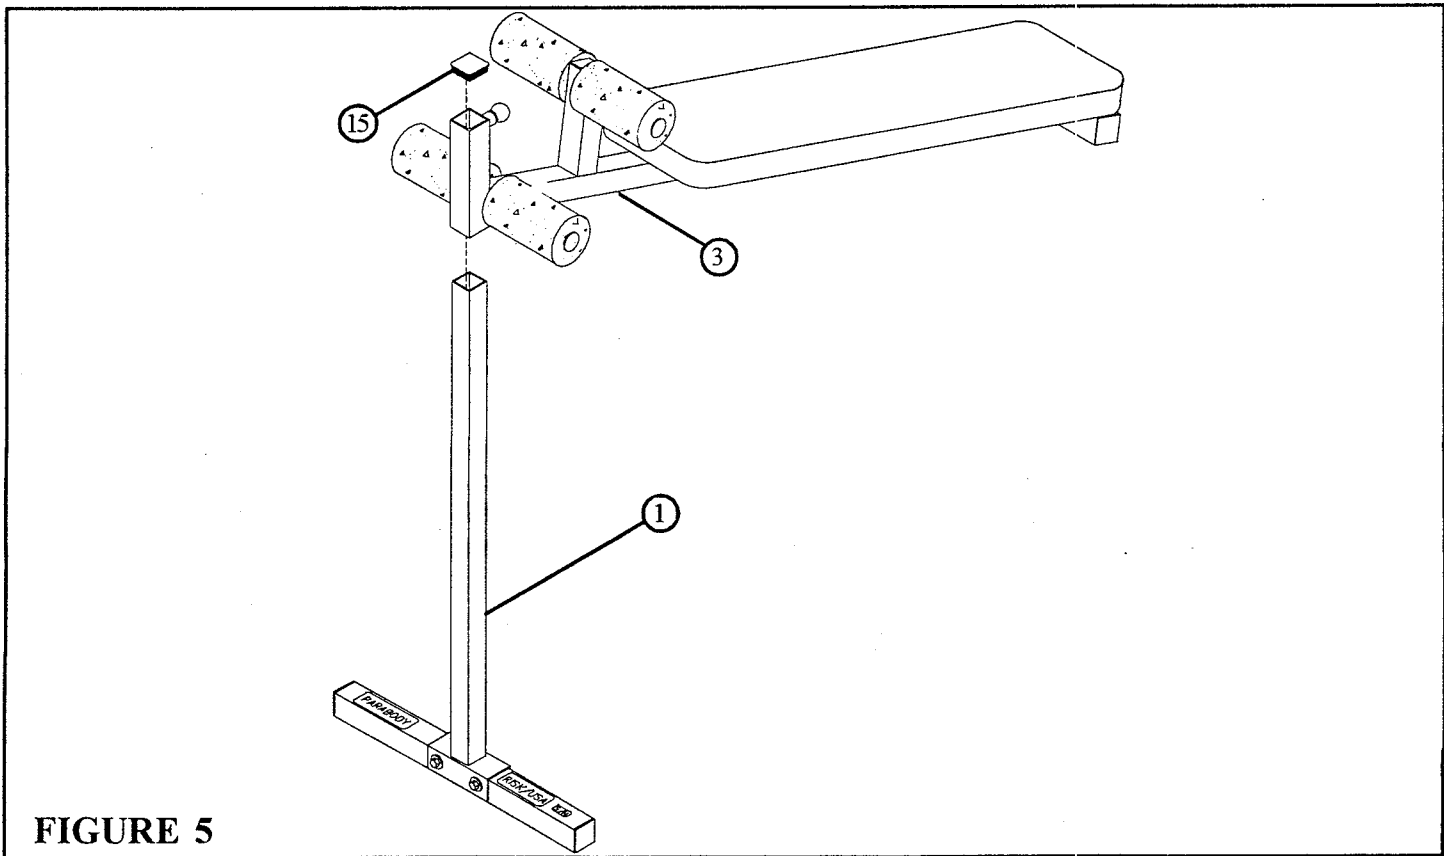

FIGURE 5
- Pull back the SPRING PIN and **CAREFULLY** slide the MAIN PAD SUPPORT (3) over the FRONT BASE SUPPORT (1) as shown in FIGURE 5.
- Insert one 1-3/4" SQ. END CAP (15) into the ends of the FRONT BASE SUPPORT (1) as shown in FIGURE 5.